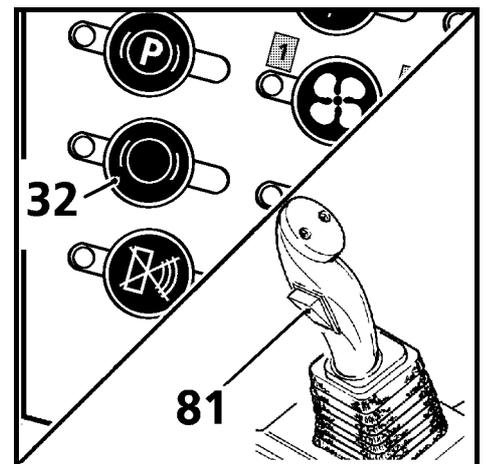

Fig. 29
- In the other position, the brake is in semi-automatic mode and is controlled via the rocker switch 81 (Fig. 29) mounted to the right joystick lever as follows: